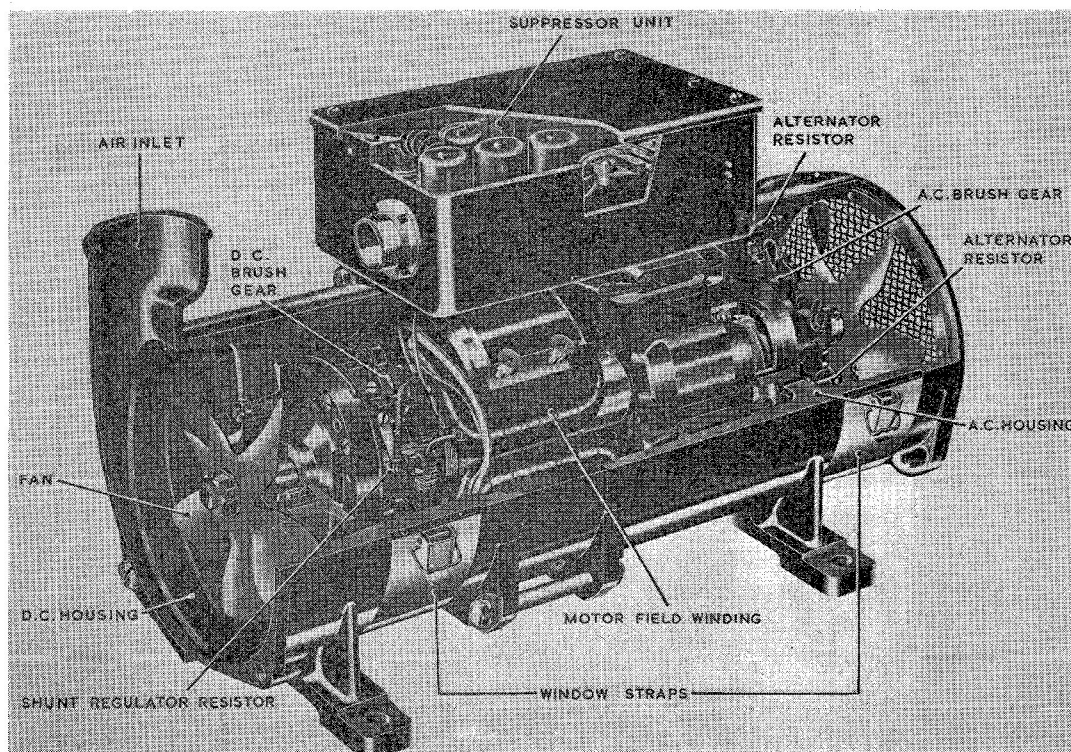

Fig. 1. Part sectioned 158 inverter
3. A general description of inverters in the S3100 series will be found in A.P.4343, Vol. 1, Sect. 8, Chap. 2. The Type 158 inverter (*fig. 1*) follows the same general construction but has two shunt field ballast resistors mounted on the brush-gear and four rotor circuit resistors mounted in the a.c. housing. Electrical connections are made via two split terminal lugs having cable holes 0.25 in. diameter for the d.c. input, and a three-pole plug for the a.c. output. Interconnection between the inverter and its associated control panel(s) is made via a 12-pole plug and its associated mating socket. All the above-mentioned connections, applying to the inverter, are located on the suppressor unit mounted on the top of the inverter.